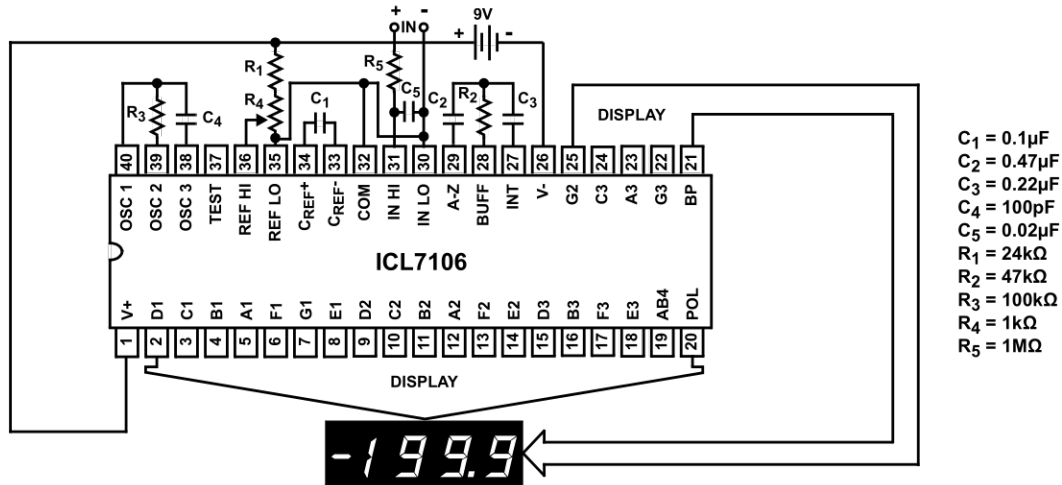

FIGURE 1. ICL7106 TEST CIRCUIT AND TYPICAL APPLICATION WITH LCD DISPLAY COMPONENTS SELECTED FOR 200mV FULL SCALE
- Unless otherwise noted, specifications apply to both the ICL7106 and ICL7107 at $T_A = +25^\circ\text{C}$, $f_{\text{CLOCK}} = 48\text{kHz}$. ICL7106 is tested in the circuit of Figure 1. ICL7107 is tested in the circuit of Figure 2.